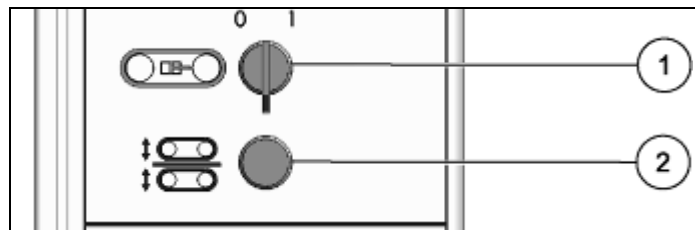

Abb. 23: Hydraulic belt tensioner
- Remount 2 belt guides on the upper S-unit (see 6.2.1, Fig. 23)
- Switch the hydraulic belt tensioner (1) from Position "0" (belt released, switch is not illuminated), move it to position "1", and tension the S-unit (switch is illuminated).